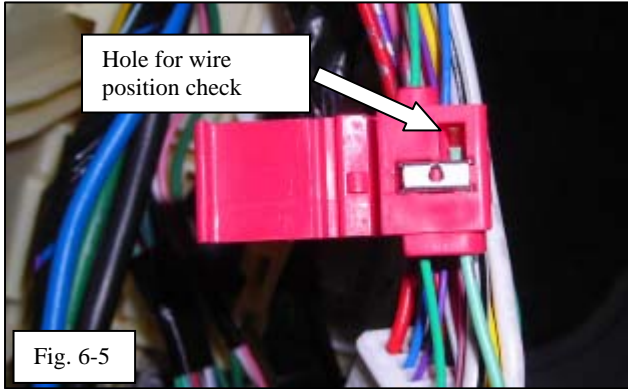

Fig. 6-5
- (4) Insert the **LIGHT GREEN** un-fused wire from the illuminated door sill into the Scotchlok. You should be able to see the wire through the hole if it is inserted all the way. (Fig. 6-5)
(6) Snap the plastic cover in place by hand (Fig. 6-5 step f).